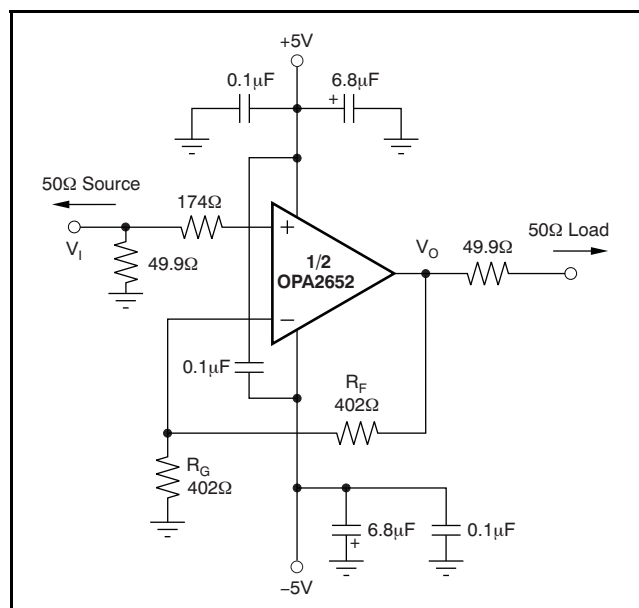
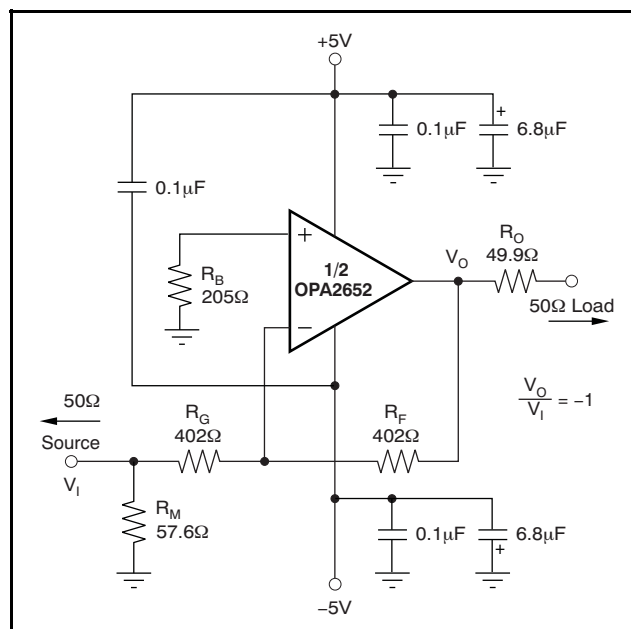

Figure 28. DC-Coupled,  $G = +2$ , Bipolar Supply, Specification and Test Circuit
Figure 29. DC-Coupled,  $G = -1$ , Bipolar Supply, Specification and Test Circuit
At  $T_A = +25^\circ\text{C}$ ,  $G = +2$ ,  $R_F = 402\Omega$ , and  $R_L = 100\Omega$ , unless otherwise noted. See Figure 28 and Figure 29 for AC performance only.
At  $T_A = +25^\circ\text{C}$ ,  $G = +2$ ,  $R_F = 402\Omega$ , and  $R_L = 100\Omega$ , unless otherwise noted. See Figure 28 and Figure 29.
At  $T_A = +25^\circ C$ ,  $G = +2$ ,  $R_F = 402\Omega$ , and  $R_L = 100\Omega$ , unless otherwise noted. See Figure 28 and Figure 29.
Figure 28 shows the DC-coupled, gain of +2, dual power-supply circuit configuration used as the basis of the  $\pm 5\text{V}$  specifications and typical characteristics. This configuration is for one channel. The other channel is connected similarly. For test purposes, the input impedance is set to  $50\Omega$  with a resistor to ground and the output impedance is set to  $50\Omega$  with a series output resistor.
Voltage swings reported in the specifications are taken directly at the input and output pins, while output powers (dBm) are at the matched  $50\Omega$  load. For the circuit of Figure 28, the total effective load will be  $100\Omega \parallel 804\Omega$ . Two optional components are included in Figure 28.
Figure 29 shows the DC-coupled, gain of  $-1$ , bipolar supply circuit configuration that is the basis of the specifications and typical characteristics at  $G = -1$ . The input impedance matching resistor ( $57.6\Omega$ ) used for testing gives a  $50\Omega$  input load. A resistor ( $205\Omega$ ) connects the noninverting input to ground. This configuration provides the DC source resistance matching to cancel outputs errors arising from input bias current.
A good rule of thumb is to target the parallel combination of  $R_F$  and  $R_G$  (see Figure 28) to be less than approximately 300Ω. The combined impedance  $R_F \parallel R_G$  interacts with the inverting input capacitance, placing an additional pole in the feedback network, and thus a zero in the forward response. Assuming a 2pF total parasitic on the inverting node, holding  $R_F \parallel R_G < 300\Omega$  keeps this pole above 250MHz. By itself, this constraint implies that the feedback resistor  $R_F$  can increase to several kΩ at high gains. This increase is acceptable as long as the pole formed by  $R_F$  and any parasitic capacitance appearing in parallel is kept out of the frequency range of interest.
Voltage feedback op amps exhibit decreasing closed-loop bandwidth as the signal gain is increased. In theory, this relationship is described by the Gain Bandwidth Product (GBP) shown in the specifications. Ideally, dividing GBP by the noninverting signal gain (also called the Noise Gain, or NG) predicts the closed-loop bandwidth. In practice, this prediction only holds true when the phase margin approaches 90°, as it does in high gain configurations. At low gains (increased feedback factor), most amplifiers exhibit a wider bandwidth and lower phase margin. The OPA2652 is compensated to give a flat response in a noninverting gain of 1 (see Figure 28). This configuration results in a typical gain of +1 bandwidth of 700MHz, far exceeding that predicted by dividing the 200MHz GBP by  $NG = 1$ . Increasing the gain
Because the OPA2652 is a general-purpose, wideband voltage feedback op amp, all of the familiar op amp application circuits are available to the designer. Inverting operation is one of the more common requirements and offers several performance benefits. Figure 29 shows a typical inverting configuration.
In the inverting configuration, three key design consideration must be noted. First, the gain resistor ( $R_G$ ) becomes part of the signal channel input impedance. If input impedance matching is desired (which is beneficial whenever the signal is coupled through a cable, twisted pair, long PCB trace or other transmission line conductor),  $R_G$  may be set equal to the required termination value and  $R_F$  adjusted to give the desired gain. This approach is the simplest, and results in optimum bandwidth and noise performance. However, at low inverting gains, the resulting feedback resistor value can present a significant load to the amplifier output. For an inverting gain of  $-1$ , setting  $R_G$  to 50Ω for input matching eliminates the need for  $R_M$  but requires a 50Ω feedback resistor. This configuration has the interesting advantage that the noise gain becomes equal to 2 for a 50Ω source impedance—the same as the noninverting circuits considered above. However, the amplifier output now sees the 50Ω feedback resistor in parallel with the external load. In general, the feedback resistor should be limited to the 200Ω to 1.5kΩ range. In this case, it is preferable to increase both the  $R_F$  and  $R_G$  values as shown in Figure 29, and then achieve the input matching impedance with a third resistor ( $R_M$ ) to ground. The total input impedance becomes the parallel combination of  $R_G$  and  $R_M$ .
The second major consideration, touched on in the previous paragraph, is that the signal source impedance becomes part of the noise gain equation and influences the bandwidth. For the example in Figure 29, the  $R_M$  value combines in parallel with the external 50Ω source impedance, yielding an effective driving impedance of  $50\Omega \parallel 57.6\Omega = 26.8\Omega$ . This impedance is added in series with  $R_G$  for calculating the noise gain (NG). The resulting NG is 1.94 for Figure 29 (an ideal source would cause  $NG = 2.00$ ).
error, as a result of the input bias currents, is reduced to (Input Offset Current) •  $R_F$ . If the  $50\Omega$  source impedance is DC-coupled in Figure 29, the total resistance to ground on the inverting input will be  $429\Omega$ . Combining this in parallel with the feedback resistor gives  $208\Omega$ , which is close to the  $R_B = 205\Omega$  used in Figure 29. To reduce the additional high-frequency noise introduced by this resistor, it is sometimes bypassed with a capacitor. As long as  $R_B < 300\Omega$ , the capacitor is not required since its total noise contribution is much less than that of the op amp input noise voltage.
The OPA2652 provides good distortion performance into a  $100\Omega$  load on  $\pm 5V$  supplies. Increasing the load impedance improves distortion directly. Remember that the total load includes the feedback network; in the noninverting configuration (Figure 28), this is sum of  $R_F + R_G$ , while in the inverting configuration, it is only  $R_F$ . Also, providing an additional supply decoupling capacitor ( $0.1\mu F$ ) between the supply pins (for bipolar operation) improves the 2nd-order distortion slightly (3dB to 6dB).
Evaluating these two equations for the OPA2652 circuit and component values shown in Figure 28 gives a total output spot noise voltage of  $17\text{nV}/\sqrt{\text{Hz}}$  and a total equivalent input spot noise voltage of  $8.4\text{nV}/\sqrt{\text{Hz}}$ . This noise includes the noise added by the bias current cancellation resistor ( $205\Omega$ ) on the noninverting input. This total input-referred spot noise voltage is only slightly higher than the  $8\text{nV}/\sqrt{\text{Hz}}$  specification for the op amp voltage noise alone. This result will be the case as long as the impedances appearing at each op amp input are limited to the previously recommend maximum value of  $300\Omega$ . Keeping both  $(R_F \parallel R_G)$  and the noninverting input source impedance less than  $300\Omega$  satisfies both noise and frequency response flatness considerations. Since the resistor-induced noise is relatively negligible, additional capacitive decoupling across the bias current cancellation resistor ( $R_B$ ) for the inverting op amp configuration of Figure 29 is not required.
The balanced input stage of a wideband voltage feedback op amp allows good output DC accuracy in a wide variety of applications. Although the high-speed input stage does require relatively high input bias current (typically  $4\mu\text{A}$  out of each input terminal), the close matching between them may be used to significantly reduce the output DC error caused by this current. This reduction is done by matching the DC source resistances appearing at the two inputs. This matching reduces the output DC error resulting from the input bias currents to the offset current times the feedback resistor. Evaluating the configuration of Figure 28, using worst-case  $+25^\circ\text{C}$  input offset voltage and current specifications, gives a worst-case output offset voltage equal to:
As an example, compute the maximum  $T_J$  using an OPA2652E (SOT23-8 package) in the circuit of Figure 28 operating at the maximum specified ambient temperature of +85°C and with both outputs driving 2.5VDC into a grounded 100Ω load.